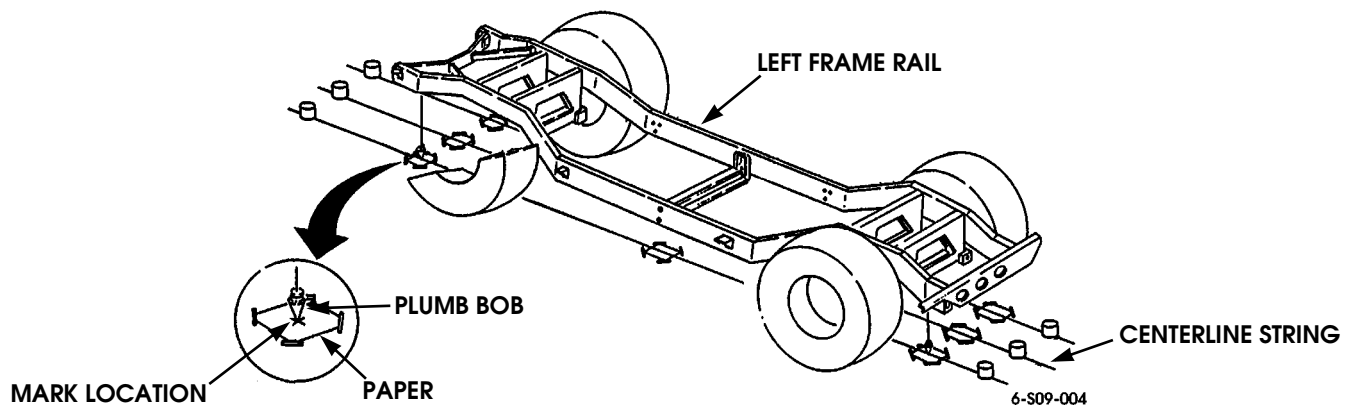

Figure 9-162: Horizontal (Bowling) Measurement
3. Hang a plumb bob at the corner of one frame rail where the frame rail intersects the crossmember. Tape a piece of paper to the floor under plumb bob and mark location where plumb bob stops moving. Repeat procedure for each corner of the frame (Figure 9-162).
4. Stretch string tightly on floor between front and rear plumb bob marks under each frame rail (Figure 9-162).
5. Measure front and rear crossmembers to determine center point. Drop a plumb bob from crossmember center points to the floor. Mark location where plumb bob stops moving (Figure 9-162).
6. Stretch a string tightly on floor between front and rear plumb bob marks under crossmembers to determine centerline (Figure 9-162).